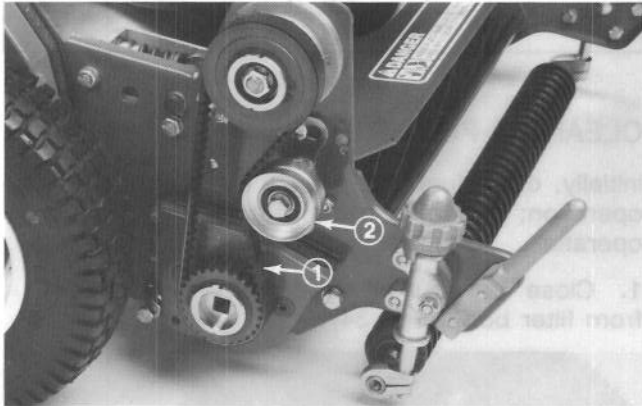
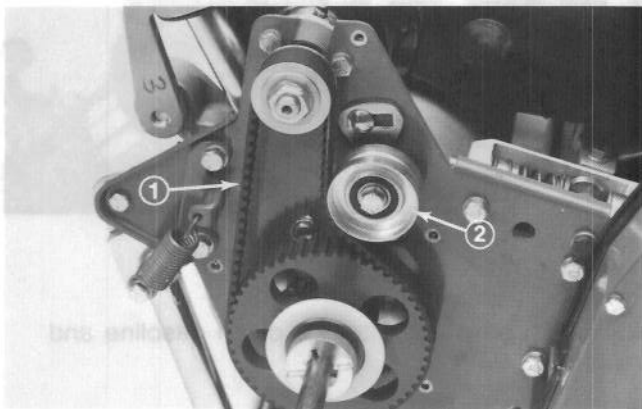
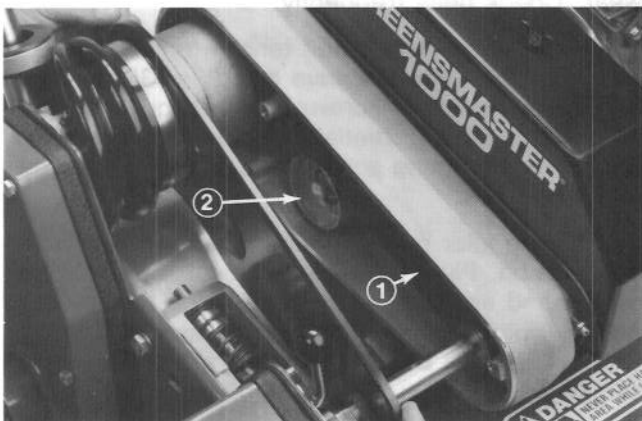

Figure 35
Figure 36
Figure 37
- 1. To check or adjust belt tension on reel drive belt (Fig. 35), traction drive belt (Fig. 36) remove belt cover mounting screws and belt cover to expose belts. On differential belt (Fig. 37), remove belt cover mounting screws and slide cover away to expose belt.
- 2. Loosen idler pulley mounting screws relieving belt tension. Pivot the pulley against the backside of belt and apply 20 - 25 lbs of force to the idler pulley. Tighten pulley mounting screws. **DO NOT OVER TENSION BELTS.** Procedure the same for all (3) belts.